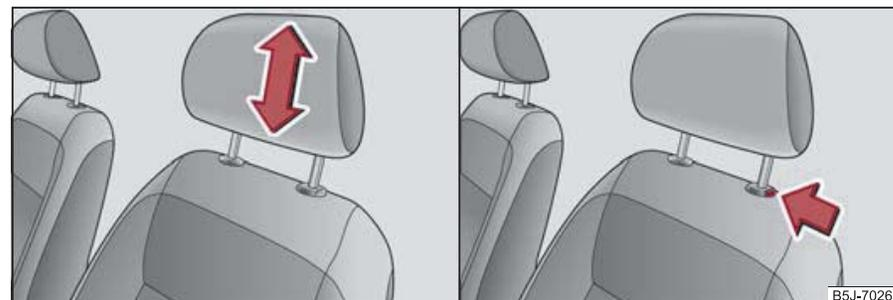

Fig. 52 Head restraint: Adjusting/pulling out
- Grasp the side of the head restraint with both hands and push it in upward direction as desired ⇒ fig. 52 - left.
- Move the head restraint downwards if required by pressing and holding the safety button with one hand ⇒ fig. 52 - right and by pressing with the other hand the head restraint downwards.
- Press the locking button in the direction of arrow ⇒ page 57, fig. 52 - right and pull the head restraint out.